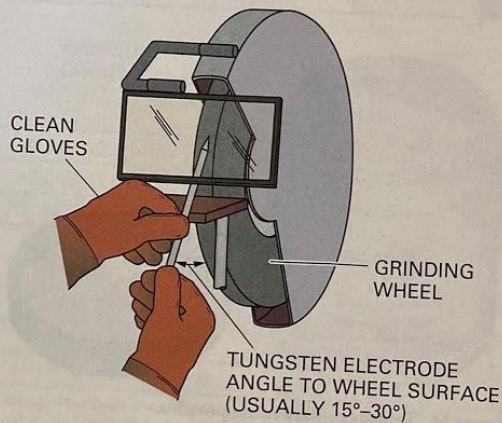

Figure 35 Proper grinding angle and tungsten electrode orientation.
**Step 1** With the color band end held farthest from the grinder, hold the tungsten electrode against the grinder so that the tungsten electrode is in the plane of the wheel and makes an angle of about 30 degrees with the wheel or belt surface (Figure 35).